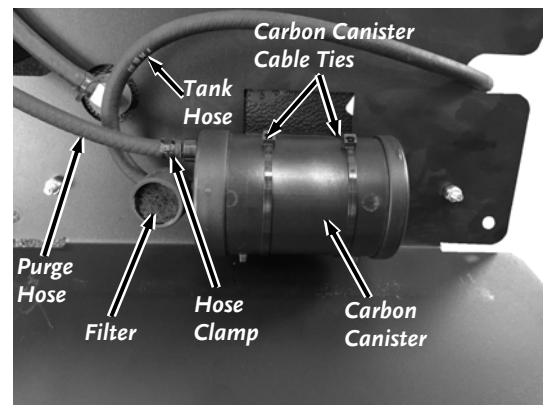

Figure 38a (Pro 16.5hp)
2. Cut the Cable Ties that are securing the Carbon canister and Purge Hose (20hp Only) to the Gas Tank Plate using Wire Cutters (**Figure 38a and 38b**).